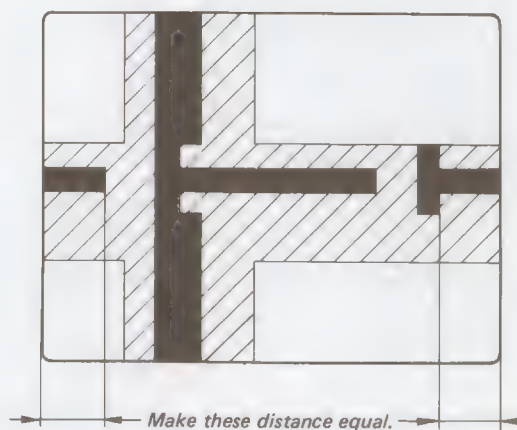

Fig. 5-132.
3. Turn RV 1 on the V board in the H. DELAY and V. DELAY operations so that the H. DELAY position is as shown in Fig. 5-132.